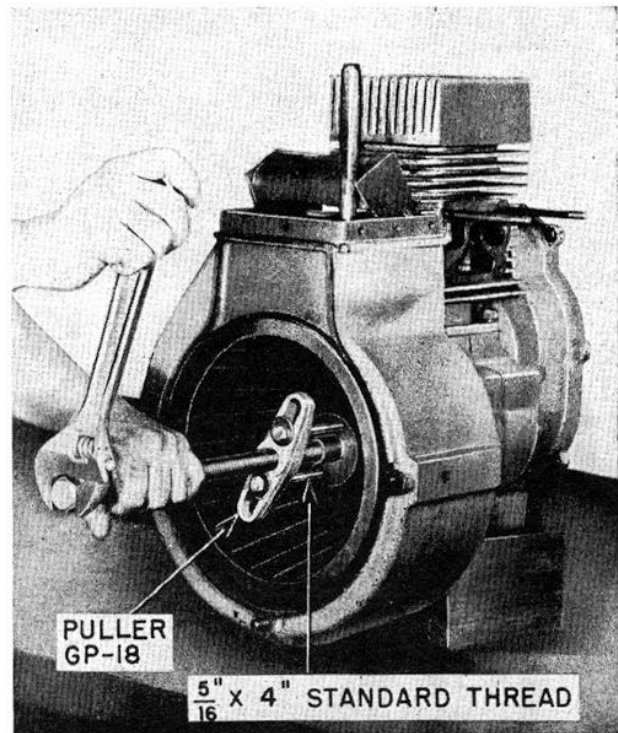

FIG. 8—REMOVING BLOWER FAN
- c. Using puller GP-18 fitted with two 5/16 x 4" cap screws furnished in special tool kit, remove blower fan. (See figure 8.) Remove both keys and inspect for burrs, etc.